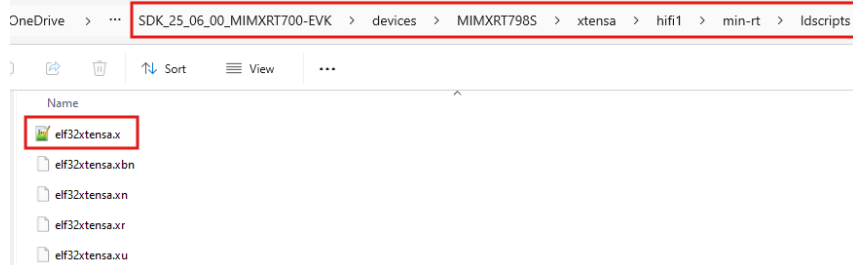

Figure 18. Modified linker file contents for SRAM mapping
- Figure 18 displays the path to the `dsp_naturedsp_hifi1` linker file.